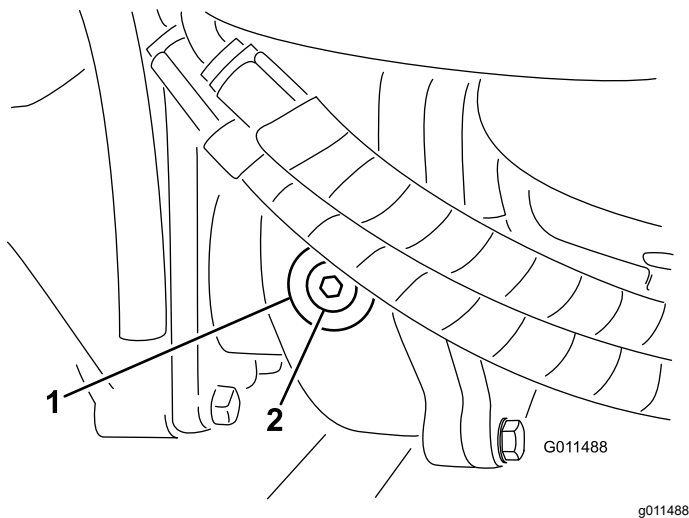

Figure 68
2. Remove the check/fill plug from the left side of the gear box and ensure that lubricant is up to the bottom of the hole (Figure 68).